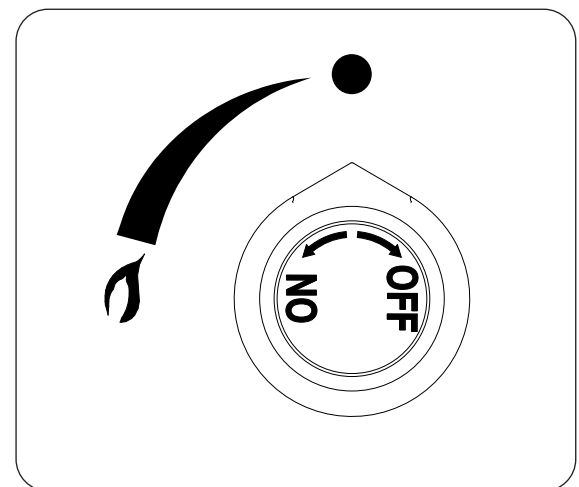

Fig. 37-2
4. **Once the flame is in position**, turn the gas control knob counter-clockwise to the **ON** position, depress, and hold for 15 seconds (see Fig. 37-2). Your burner should light within 5 seconds.
To extinguish your gas burner, turn the gas control knob clockwise to the **OFF** position (see Fig. 37-2). Be sure the control knob is turned fully off to avoid any gas leakage.